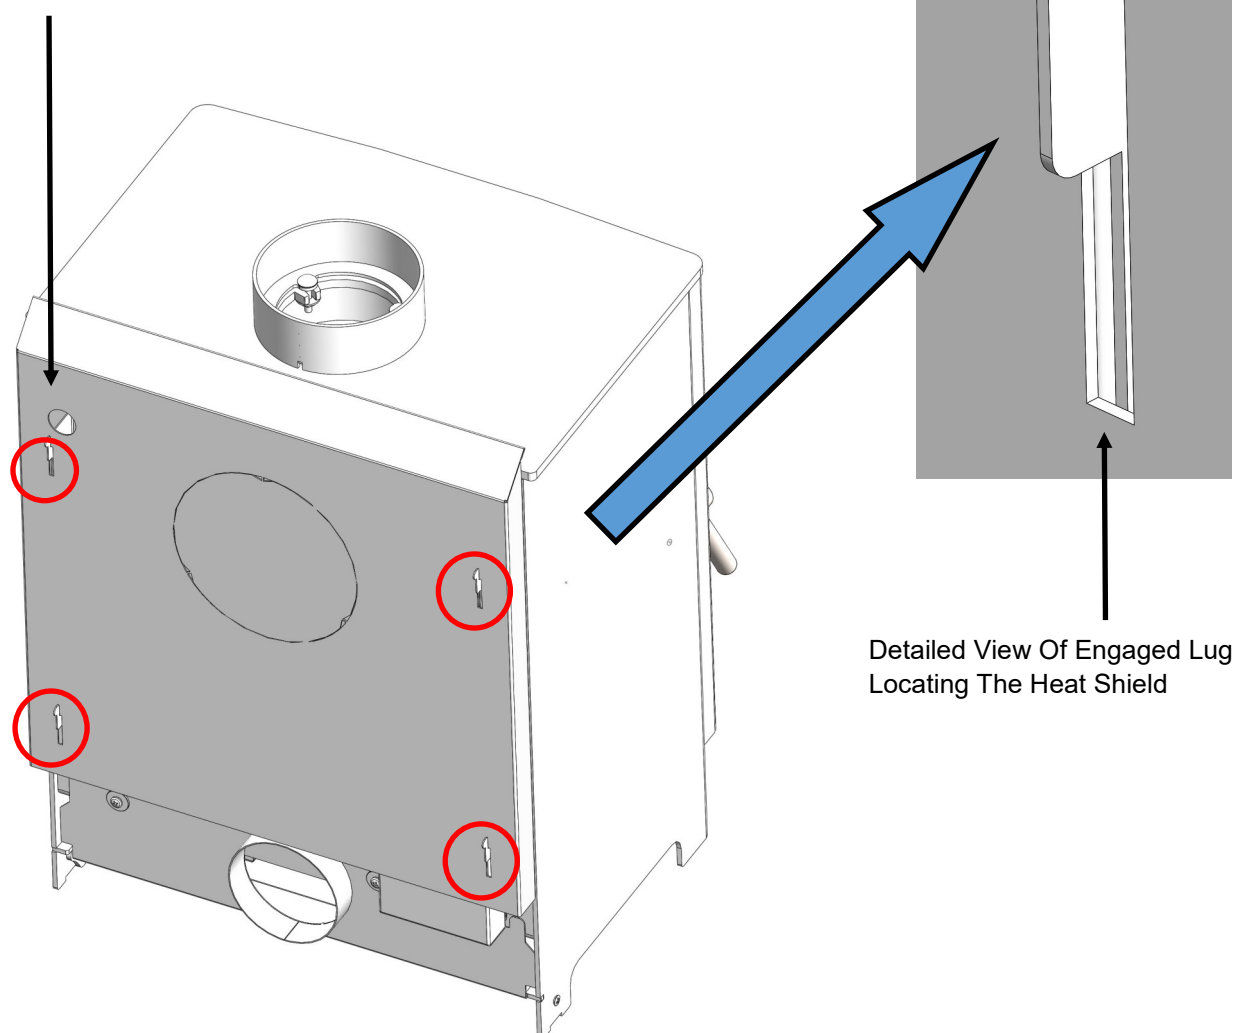

Figure 3. Heat Shield Layout
Step 5 : Finally place the solid fuel retainer into position, engaging the two tabs within the front brace of the appliance. See figure 3. The appliance is now set for solid fuel use.
Step 4 : Take the heat shield and position the mounting slots over the corresponding lugs on each side mounting bracket. Gently engage the lugs and push down, to locate the heat shield onto the mounting brackets as shown in figure 3.